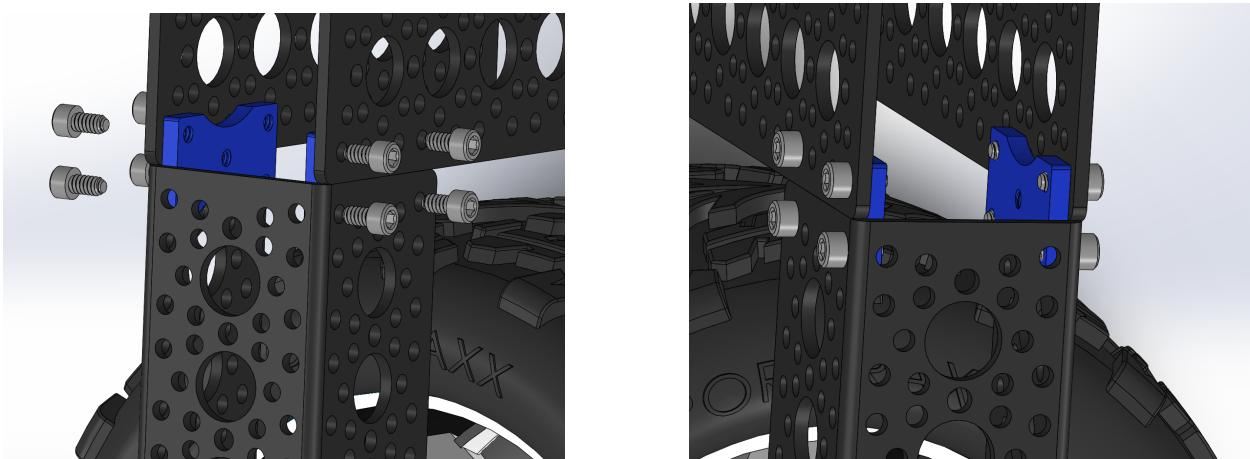

Figure 6: Corner Wheel Step 2
2. **Channel Attachments 2:** Attach a 4.5 inch channel **S4** to the top of the 3 inch channel from the last step using two channel connectors **S6** and screws **B1** as shown in Figure 6.